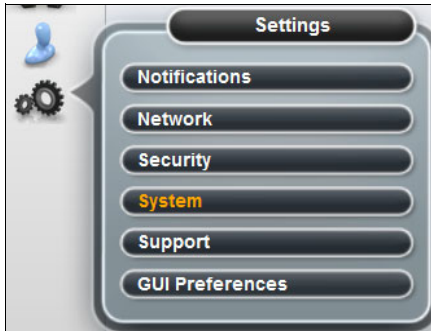

Figure 9-55 Navigate to Licensed functions
1. Select **Settings** → **System** (Figure 9-55).